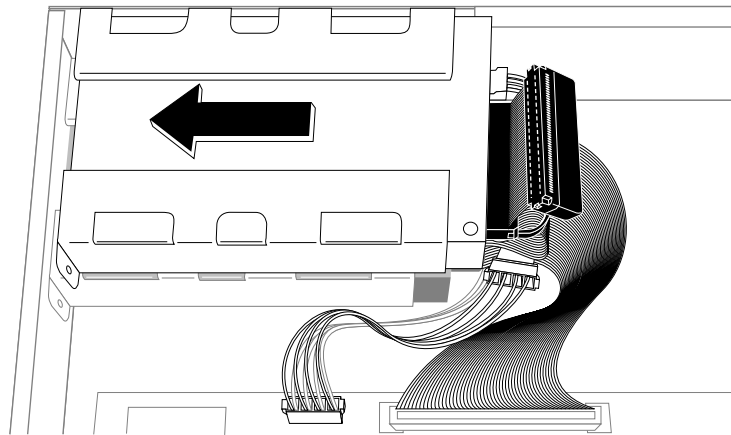

Figure 8-36 Re-installing the Floptical Drive
13. Reinstall the floptical drive in the upper drive slot, as shown in Figure 8-36.